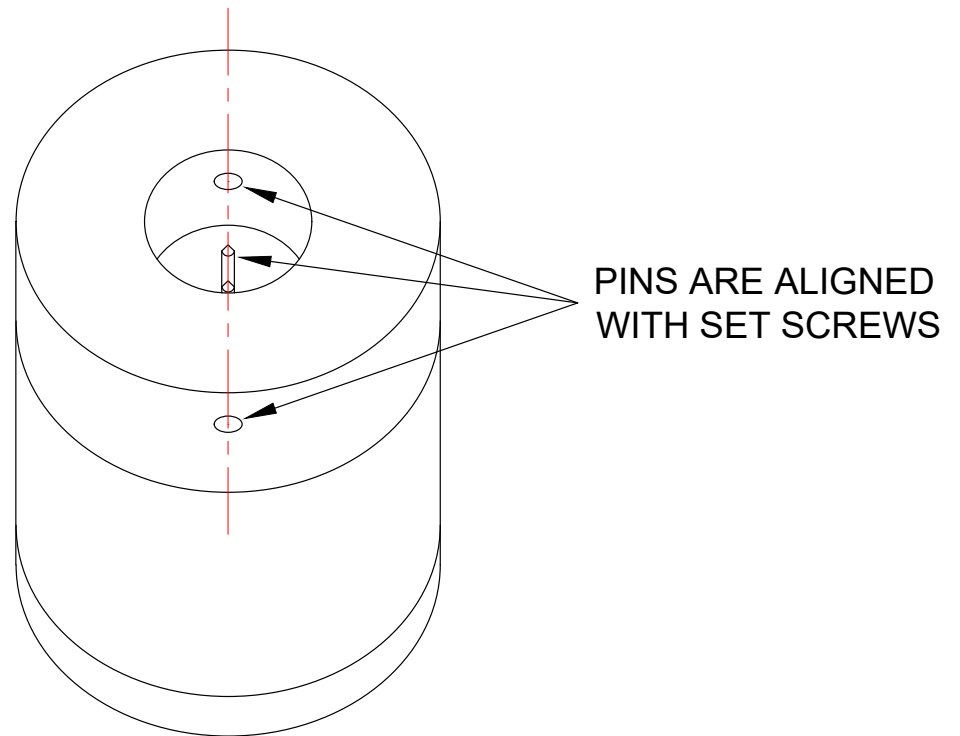

Figure 4
5. The set screws are aligned with the pins inside the Module. Use them as a guide to align the pins with the terminals in the Socket. (Figure 4) Properly installed Module will sit flat on the Base. Tighten both set screws to secure Module.